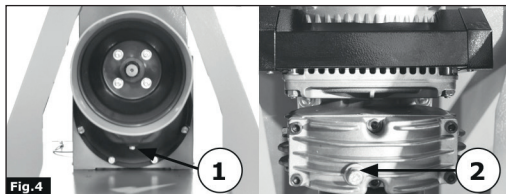

Fig. 4
- Periodically, check the oil level of the multiplier through the hole in the filler cap (2 Fig. 4). If necessary, top up with SAE 90 EP gear oil.
- Unscrew the top cap (2 Fig. 4);
- Unscrew the lower drain plug (1 Fig. 4) letting the oil contained in the multiplier flow out completely, discharging it onto the collection tray;
- At the end of the operation, fully retighten the drain plug (1 Fig. 4);
- Introduce the new oil (SAE 90 EP) through the hole in the top plug (2 Fig. 4);